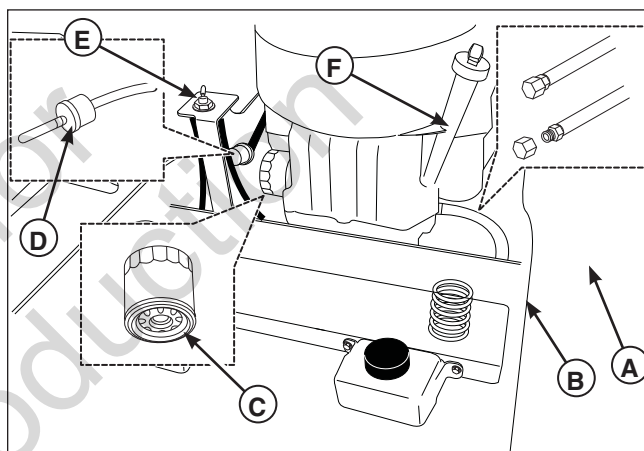

Figure 19. Engine Oil Drain (Briggs & Stratton shown)
3. Using pliers, open and slide the hose clamps from the fuel filter (D, Figure 19).
2. Locate the oil drain hose (A, Figure 19) on the left side of the engine and route the oil drain hose over the rear of the engine deck.
3. Place a small pan under the oil drain hose to catch the oil. Using the appropriate tools, remove the cap (B) from the oil drain hose (A) and drain the engine oil into the pan.
6. Remove the engine oil dipstick (F) that is located on the left side of the engine and refill with new oil (Refer to the engine operator's manual for oil recommendations.)